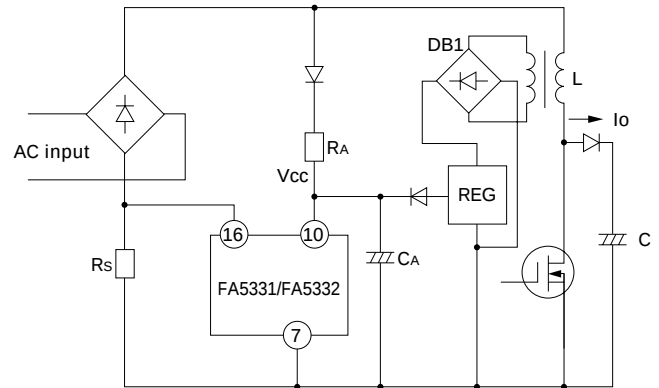

Fig. 9 Start circuit
Figure 9 shows a sample start circuit. Since the IC current while the V_{CC} pin voltage rises from 0V to V_{THON} is as small as 90μA (typ.), the power loss in resistor R_A is small. If an additional winding is prepared in the voltage step-up inductor (L), power to the control circuit can be supplied from this circuit. However, the voltage must be stabilized by a regulator circuit (REG) to prevent an excess rise of the IC supply voltage (V_{CC}). Use fast or ultra-fast rectifier diodes for the rectifier circuit (DB1) of the winding for high-frequency operation.
Figure 9 shows the basic circuit of a voltage step-up type converter which is used as a power factor correction.